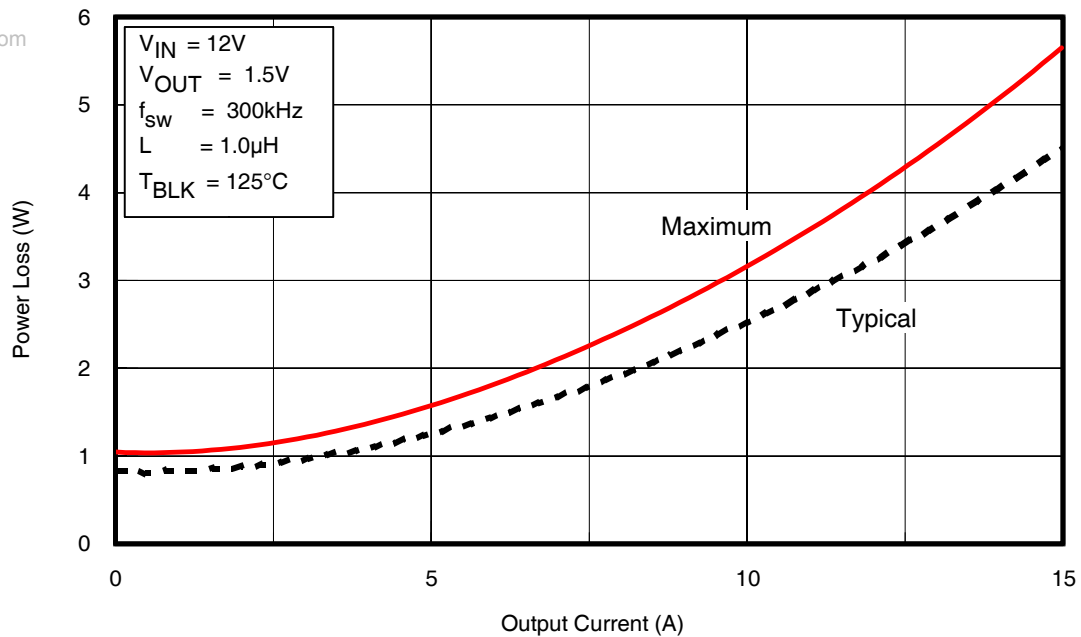
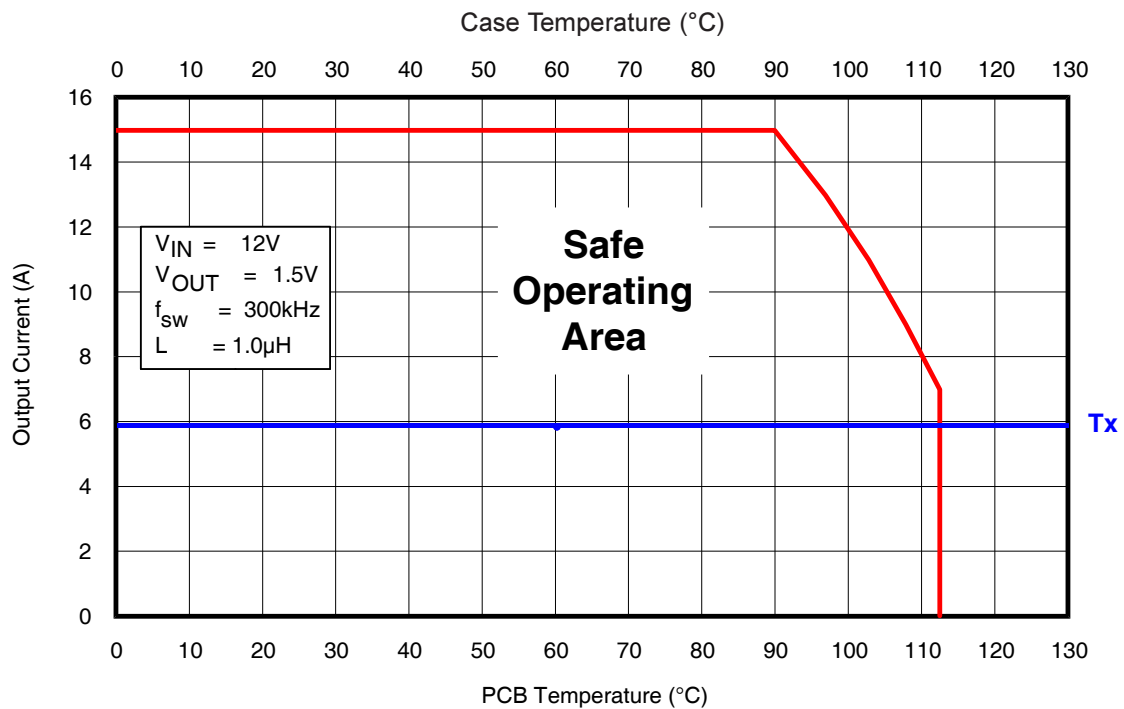
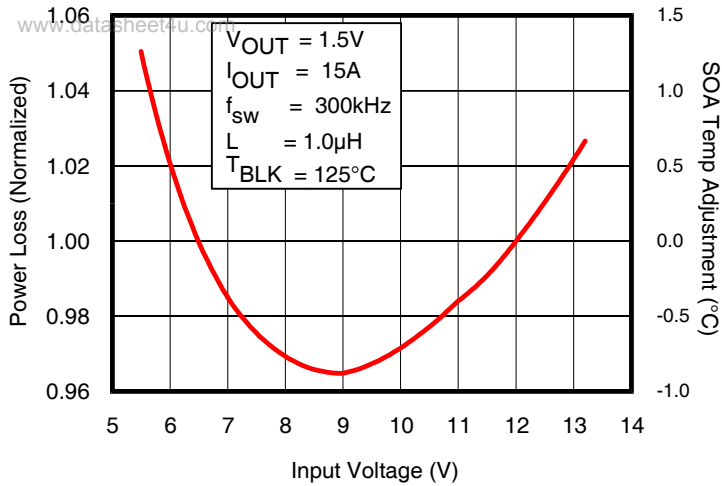

Fig. 2: Power Loss vs. Current
Fig. 3: Safe Operating Area (SOA) vs. T_{PCB} & T_{CASE}
Fig. 4: Normalized Power Loss vs. V_{IN}
To make adjustments to the power loss curves in Fig. 2, multiply the normalized value obtained from the curves in Figs. 4, 5, 6 or 7 by the value indicated on the power loss curve in Fig. 2. Then if multiple adjustments are required, multiply all of the normalized values together, then multiply that product by the value indicated on the power loss curve in Fig. 2. The resulting product is the final power loss based on all factors. See example no. 1.
To make adjustments to the SOA curve in Fig. 3, determine your maximum PCB Temp & Case Temp at the maximum operating current of each iP1203. Then, add the correction temperature from the normalized curves in Figs. 4, 5, 6 or 7 to the T_X axis intercept (see procedure no. 2 above) in Fig. 3. When multiple adjustments are required, add all of the temperatures together, then add the sum to the T_X axis intercept in Fig. 3. See example no. 2.
- (Fig. 2) Maximum power loss = 4.1W
- (Fig. 4) Normalized power loss for input voltage ≈ 1.025
- Output1 (Fig. 4) Normalized SOA Temperature for input voltage $\approx +0.7^{\circ}\text{C}$